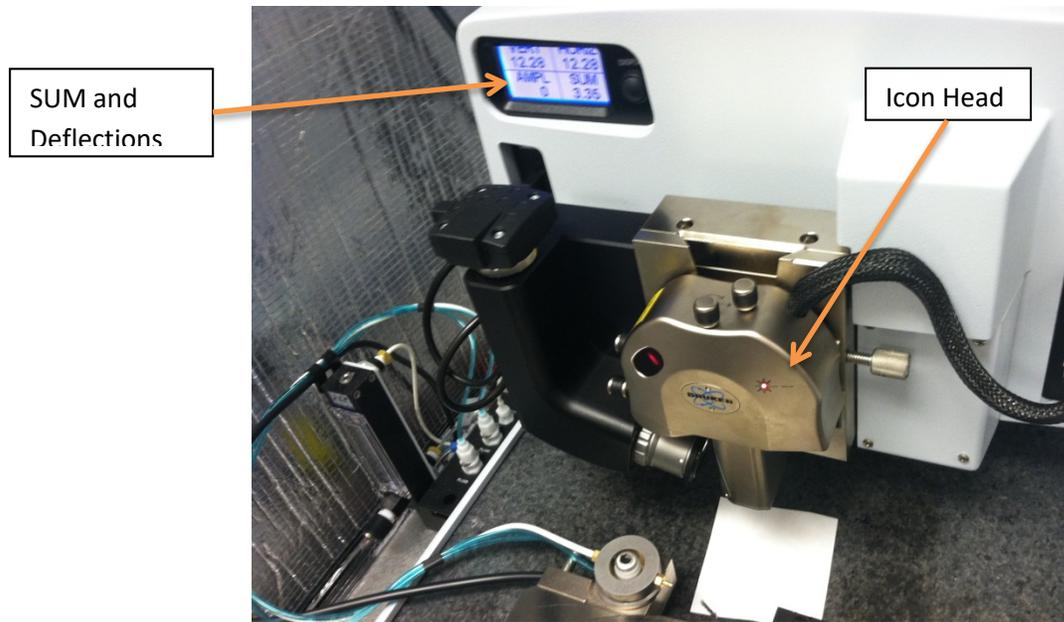

Figure 6. Alignment of the laser onto the probe cantilever.
- b) Use a sheet of white paper to view the laser light leakage around the edges of the cantilever (Figure 6).